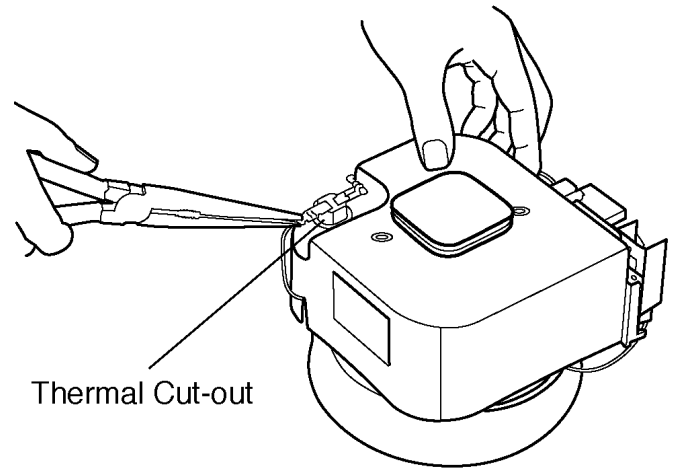

fig.11
2. Take out motor unit. Remove thermal cut-out from its lodging and disconnect the lead wires (provided with quick-connect terminal) from the thermal cut-out tabs. (Fig. 11)